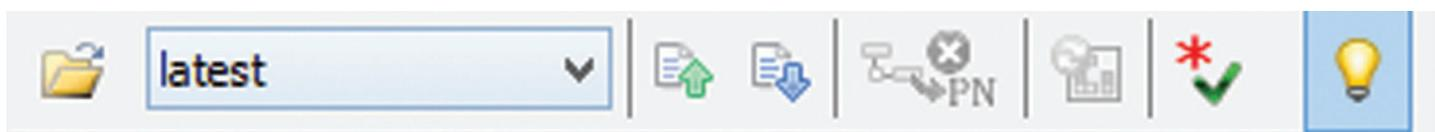

Figure 11: Property editor toolbar
- The PE now has a toolbar (see Figure 11) with a number of goodies, including the ability to import and export currently listed properties.